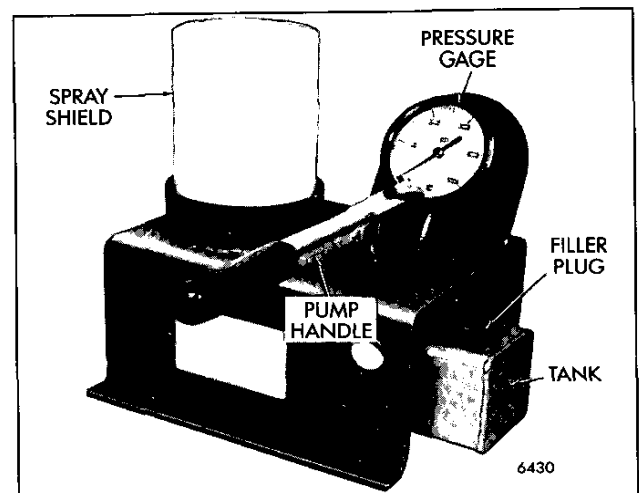

Fig. 6 - Tester J 22640-A with Shield Installed
- Place the shield on the tester and operate the pump handle until the needle valve has opened several times to purge air from the system (Fig. 6).